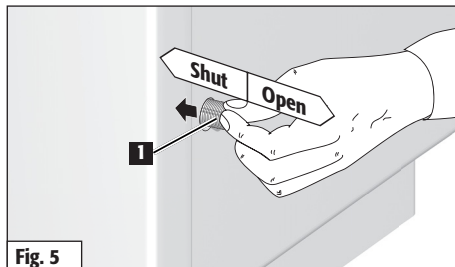

Fig. 5
**When lighting the fire and adding fuel, you use the secondary air slider (fig. 5/1) to regulate the combustion air.**
If the secondary air slider (fig. 5) is closed too tightly, there is a risk that the flue gases will not burn completely (smouldering fire), that soot will build up on the fire box window, or that the amassed wood gases will burn explosively (overfiring/deflagration).
(fig. 5) should never be completely closed. In contrast, however, the fire box door and ash compartment must always be tightly shut.